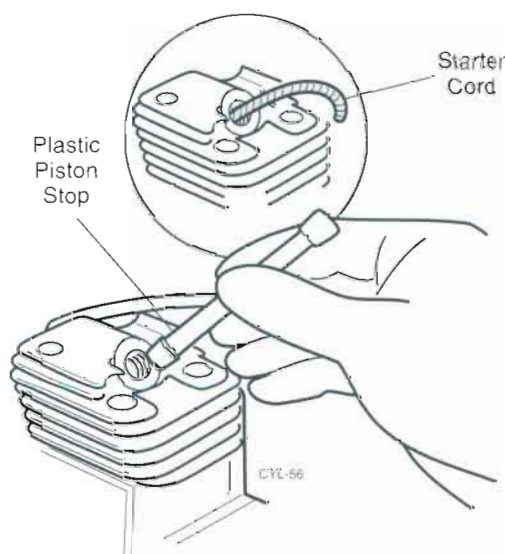

Figure 4.5 Locking the Crankshaft
- STEP 1.** Lock the engine crankshaft by inserting a plastic piston stop or length of starter rope into the spark plug hole. (Figure 4.5)